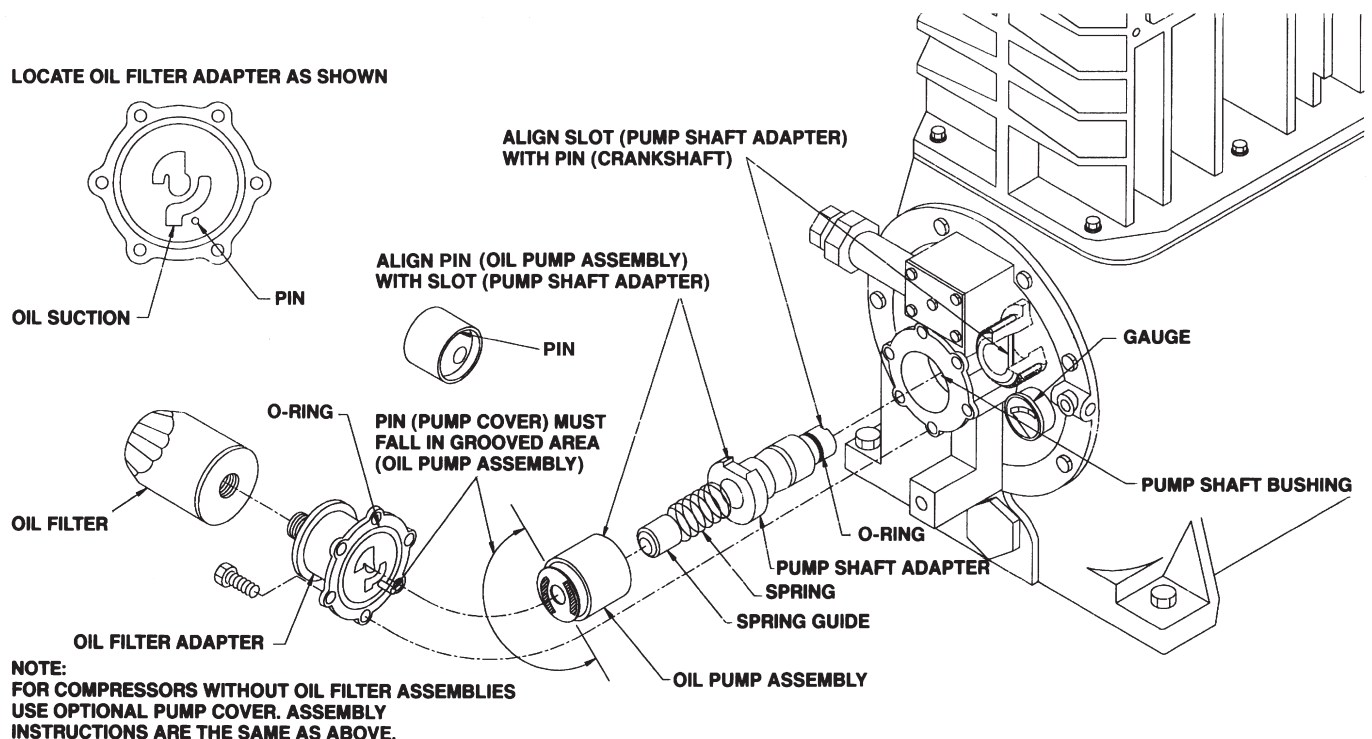

Figure 4.8: Oil pump inspection
1. To check the oil pump, unbolt the pump cover and remove the oil pump, spring guide, spring and oil pump shaft adapter as shown in figure 4.8.
4. Before reassembling the oil pump mechanism, replace the O-rings in the oil pump cover and on the oil pump adapter shaft (see figure 4.8).
8. Install the pump cover so the pin on the case is in the opening on the oil pump assembly as shown in figure 4.8. When you are sure the pin is properly aligned, install the cover bolts finger tight. If alignment is correct, the pump cover will mount flush to the bearing carrier. If it does not, re-check the pin alignment.